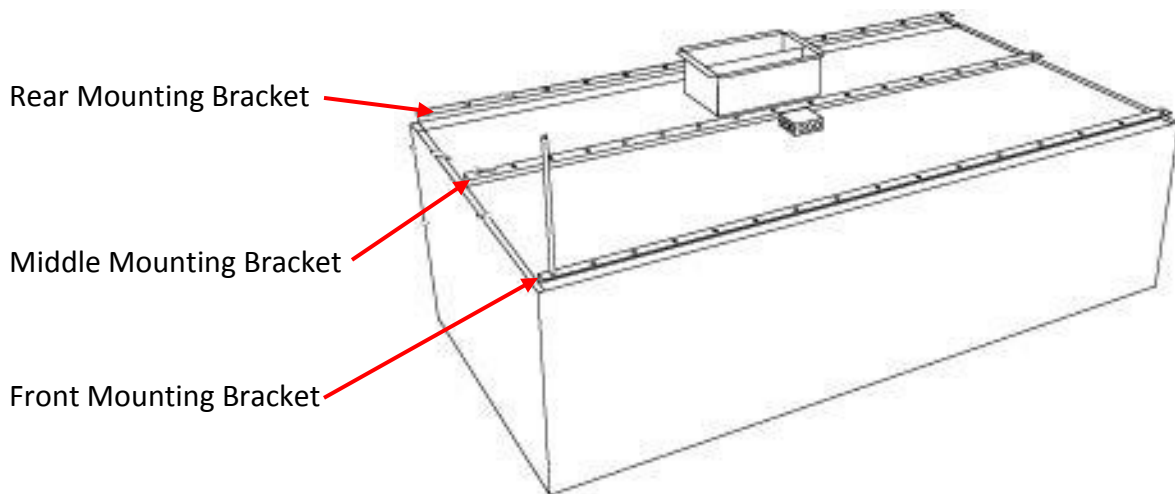

Figure B-2-1
3. Each Ventilator section has a full length Rear Mounting Bracket at the rear for bolting to the wall and/or hanging from the overhead. There are two other full length hanging brackets; the Middle Mounting Bracket and the Front Mounting Bracket for hanging from the overhead (Refer to Figure B-2-1). All three Hanging Brackets have pre-punched holes for hanging from the overhead. Hanging rods to be supplied by the Ventilator installer. If the rear bracket is used for bolting to the wall the holes must be drilled by the installing contractor at a support point in the wall. .